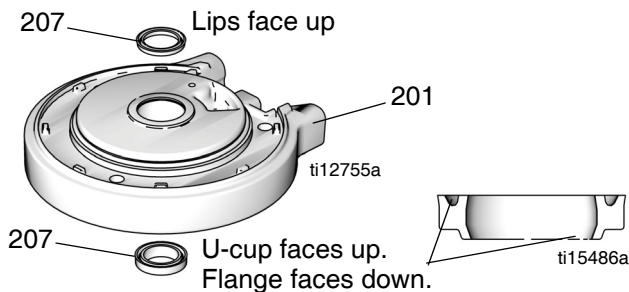

FIG. 8: Air Motor U-cup Installation
2. Lubricate the inside of the cylinder (205). Lower the cylinder onto the top cover (210).
3. Lubricate and install the o-ring (204) around the piston (219).
4. Slide the piston assembly (219) down into the cylinder (205). Be sure the o-ring (202) stays in place.
5. Install the shield (206) around the cylinder (205) and in the groove on the top cover (210).
6. See FIG. 8. Lubricate and install the new u-cup seal with flange (207) in the bottom of the bearing in the bottom cover (201). The u-cup must face up and the flange must face down. Lubricate and install the new u-cup seal (207) in the top of the bearing. The lips must face up.